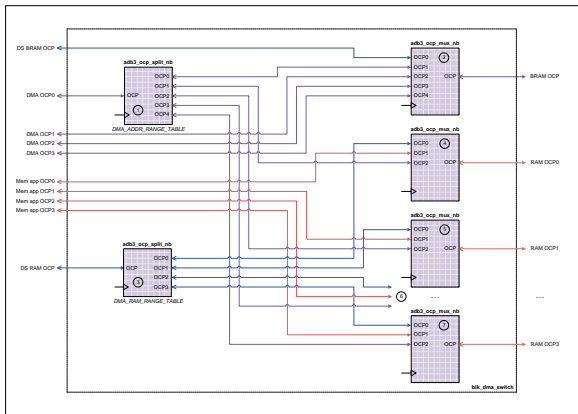

Figure 20: Uber OCP Switching Block
This block is implemented by `hdl/vhdl/examples/uber/common/blk_dma_switch.vhd` and its purpose is to connect together the various OCP channels in the **Uber** design in a useful way. A block diagram of the OCP switching block is shown in Figure 20.
Referring to item 1 in Figure 20, this instance of `adb3_ocp_split_nb` splits the Direct Slave on-board memory OCP channel into multiple secondary OCP channels, according to the address map in Table 81 below.
Referring to item 2 in Figure 20, this instance of `adb3_ocp_mux_nb` multiplexes all OCP channels which require to be connected to the **BRAM block**:
Referring to item 3 in Figure 20, this instance of `adb3_ocp_split_nb` splits DMA OCP channel 0 into multiple secondary OCP channels according to the address map in Table 82.
Items 4, 5, 6 and 7 in Figure 20 are instances of `adb3_occup_mux_nb` whose purpose is to enable multiple OCP channels to access the on-board memory banks: